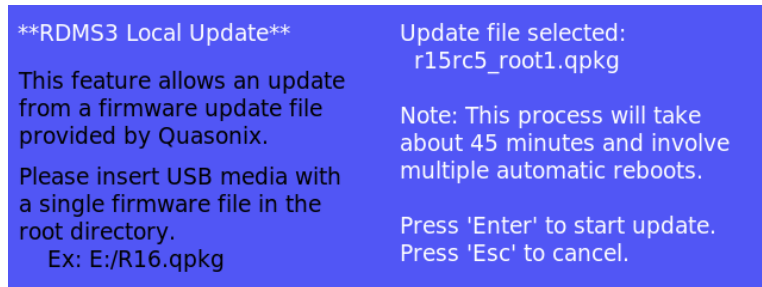

Figure 169: RDMS3 Local Update Screen, Update File Selected
- 7. If a proper update file is found, the name of the file displays on the front panel along with additional instructions, as shown in Figure 169.